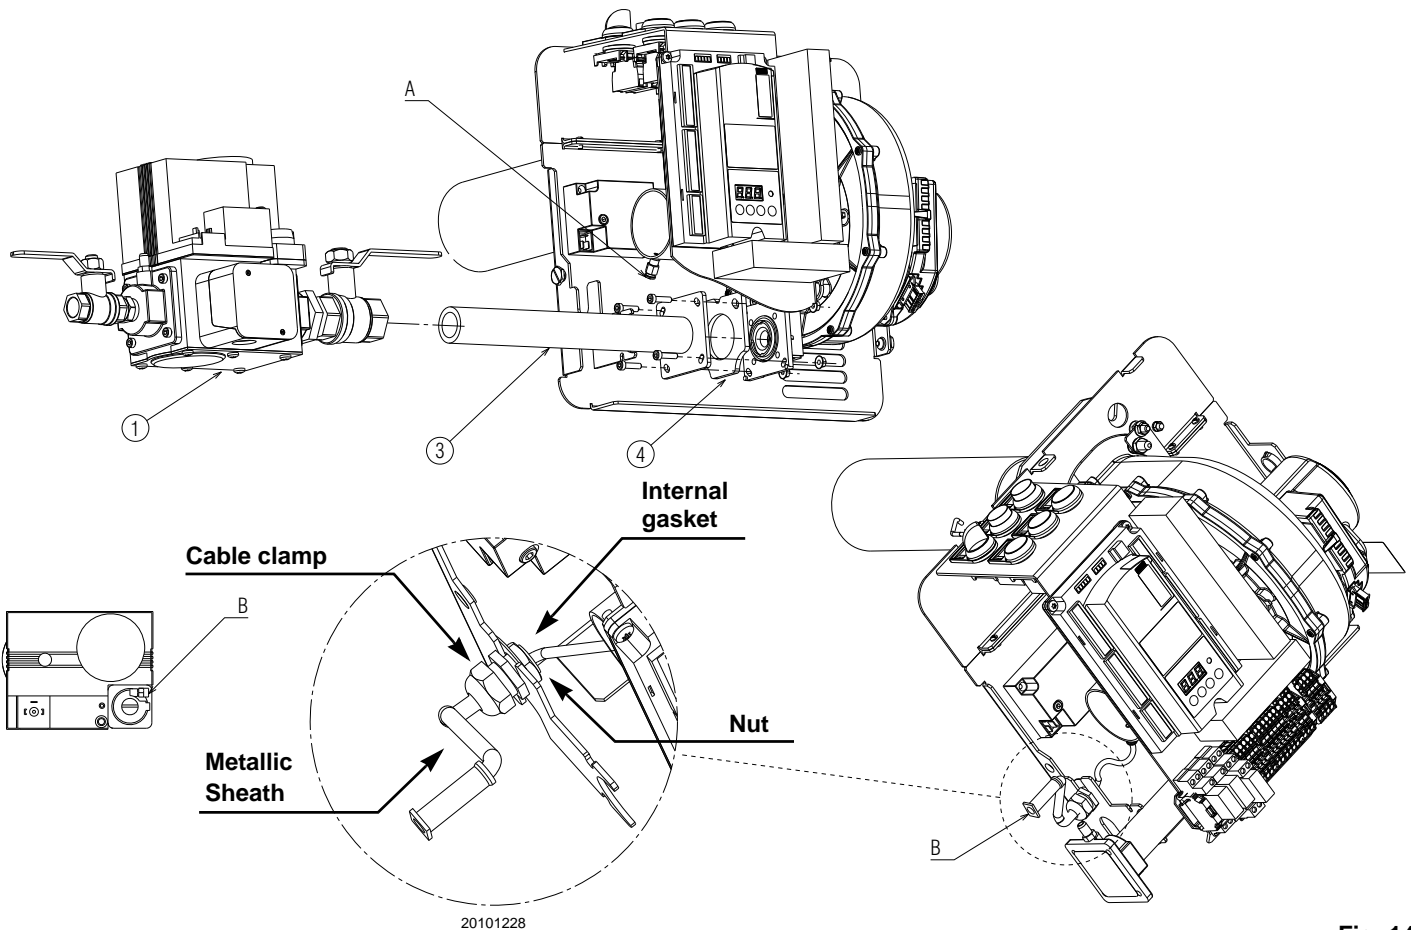

Fig. 14
- Fix the train assembly 1)(Fig. 14). Interpose the gas pipe 3) the nuts, the grover washer 4), the gasket.